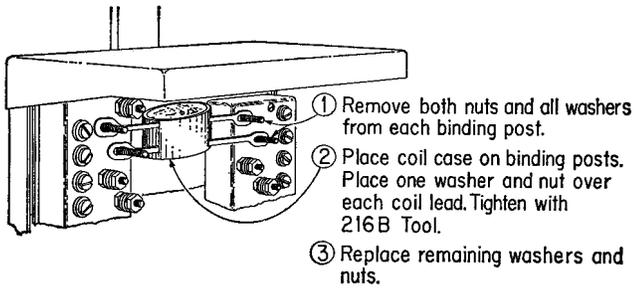

Fig. 2
3.01 The 137A or 137B Coil Cases should be mounted in the 177A Coil Case before it is carried up the pole for installation. The coil cases are installed as shown in Fig. 2.